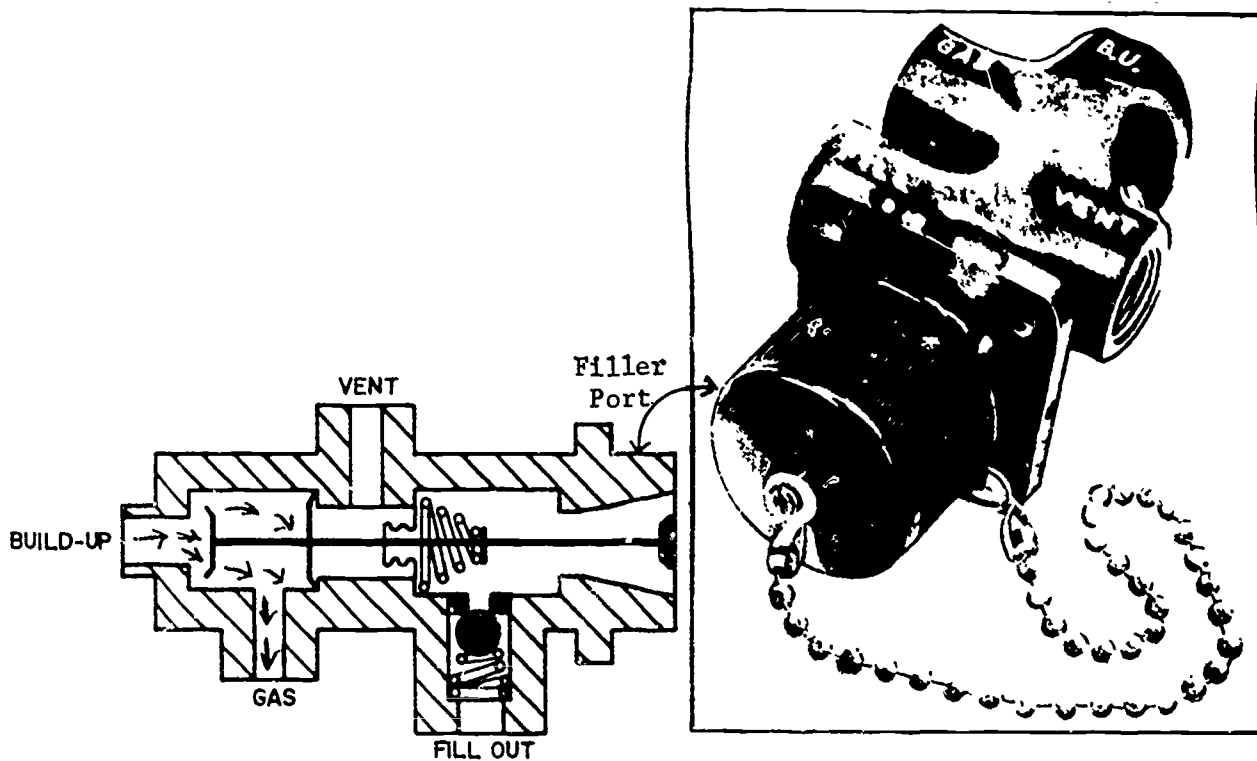

Figure 6.
The combination fill, build-up, and vent valve shown (figure 6) is a dual function valve. On older oxygen systems, it would be divided into two separate valves (1) the fill valve and (2) the build-up and vent valve. The fill portion of the combination valve has a coupling for the filler nozzle of a LOX servicing cart to connect to. As shown in (figure 6) the valve is normally in the build-up position. The build-up port is connected to the pressure opening-pressure closing valve. Gaseous oxygen flows from the pressure opening-pressure closing valve through the build-up port into the combination valve. It then flows out of the gas port, back to the top of the container. The fill out port on the valve is connected to the bottom of the container. The ball check valve in this port prevents a reverse flow of liquid (from the bottom of the container) through the valve. A dust cap attached to a chain is used on the filler port of this valve. This cap protects the seal on the filler port from damage and contamination.
The pressure opening-pressure closing valve is a single component that contains two separate parts (see figure 6). The pressure closing valve acts as the pressure regulator for the liquid oxygen system. It will either be preset at 70 psi or 300 psi depending upon the type of system the aircraft requires. The main purpose of the high pressure (300 psi) is to allow crew members to fill walk around bottles from the aircraft system. This means that bomber and cargo aircraft will have to use high-pressure systems.